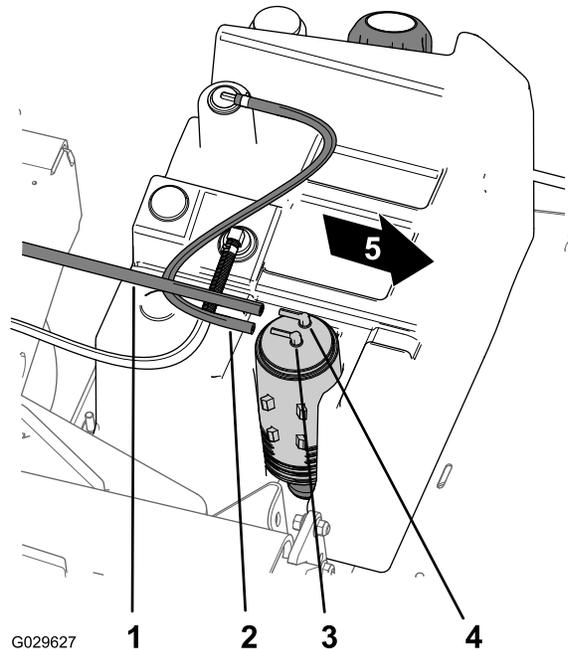

Figure 47
- Remove the vacuum hose from the fitting on the carbon canister marked Purge (Figure 47).
- Remove the fuel-tank hose from the fitting on the carbon canister marked Fuel Tank (Figure 47).
8. Assemble the vacuum hose onto the fitting on the carbon canister marked Purge and the fuel-tank hose to the onto the fitting marked Fuel Tank (Figure 47).